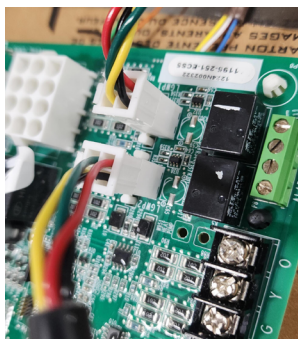

Figure 70
- Ensure the cable is properly seated into the SENSOR 1 plug (LGWP1). The Molex plug clip should lock into the Molex connection point for a secured connection, as shown below in Figure 70. Verify the connection is free of dust, debris, and moisture.